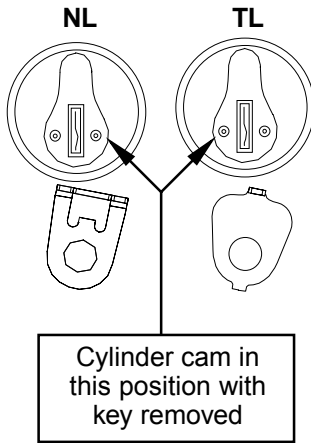

Figure 2
4. Install cylinder if required (Figs. 2 & 3). Insure cylinder cam is set for required function and replace if necessary.